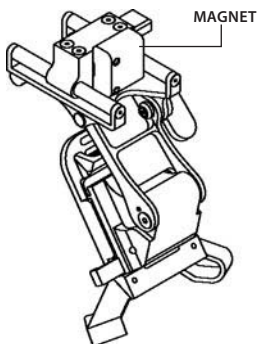

Figure 3-15. Locating the Magnet
- If the magnet is not removed, contact Customer Support for instructions on returning the ruggedized metal helmet mount for magnet removal. See Figure 3-15 for the location of the magnet.
- (1) If the sacrificial window or objective lens cap is in place, remove it.
- (2) Turn the monocular on.
- (3) While looking through the monocular, rotate the objective lens focus completely counterclockwise.